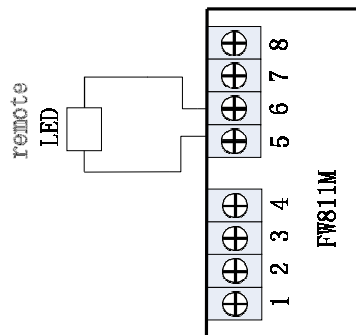

Figure 3 Wiring Diagram (Input Line Circuit)
4. Connect the remote LED indicator. See Figure 3. Note: The remote LED indicator should be located in the same room as the FW811M.